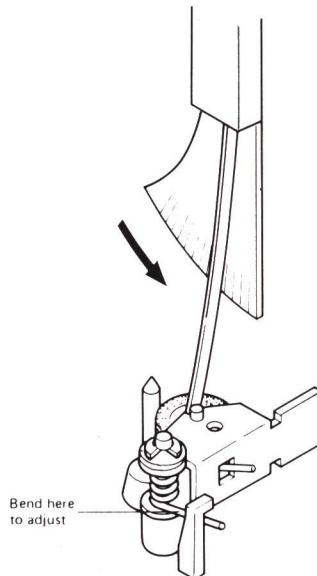

Fig. 6-6
- With the deck in the reproduce mode, attach the scale near the shaft of the pinch roller, being careful not to touch the pinch roller. See Fig. 6-6.
- If the reading is outside this range, replace the pinch roller pressure spring or adjust the pressure by bending the spring as shown in Fig. 6-6.